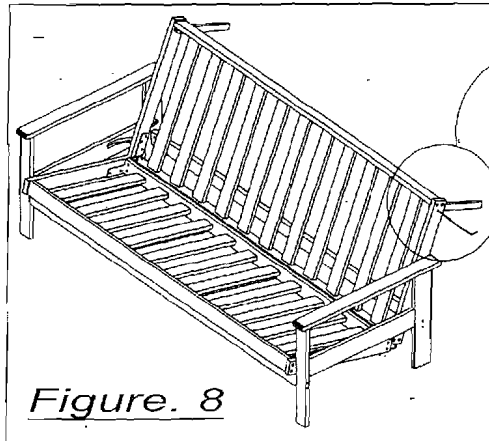
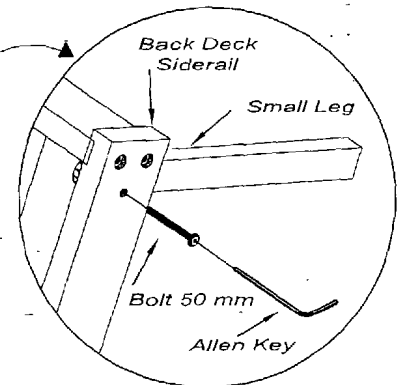

Figure. 8
Figure. 9
1. Attach the small leg on to Back deck siderails with M6 x 50 mm bolt. (figure. 8 and figure. 9)